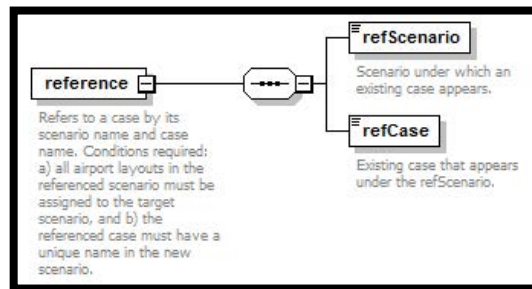

Figure 53. reference -> case and scenario
8. AsifXml/study/scenario/case/reference (Figure 53):